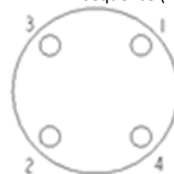

Fig. 1: Bolt Tightening Sequence
- Flange bolts should be tight enough to compress the gasket and make a good seal, without distorting or putting excessive stress on the flanges. Suitable washers should be used between the bolt head and flange and the nut and flange. Bolts should be tightened in alternating sequence (Figure 1). See Table 1 for recommended torque.